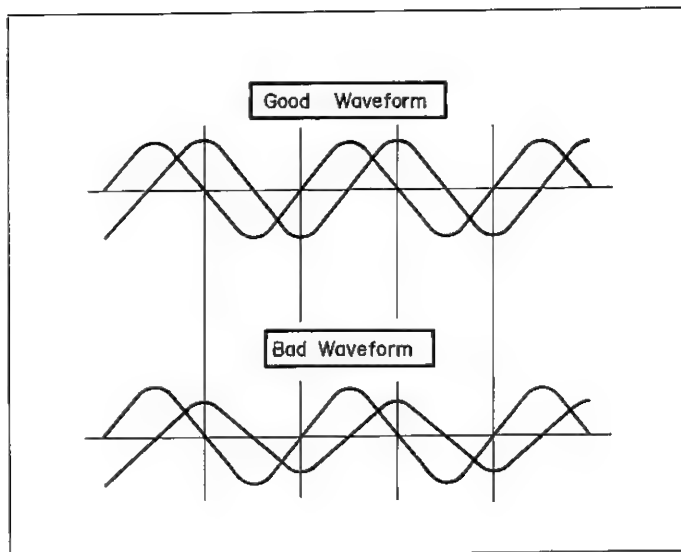

Figure 42
1. Connect one end of a dual-beam synchroscope, on the control PWB, between pin (13) (GND) and pin (8) and another between pin (13) (GND) and pin (7).
2. Turn the variable resistors VR2 and VR3 to generate two waveforms and adjust so that these two will have symmetry verticality, as shown in Figure 42.